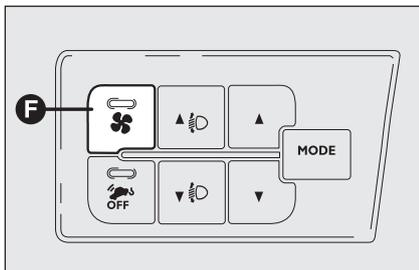

fig. 46
**IMPORTANT** to guarantee fast demisting/defrosting if the additional heater (under the seat or rear for Panorama and Combi versions) is on, turn it off by pressing button **F** (led off) located on the control panel **fig. 46**.